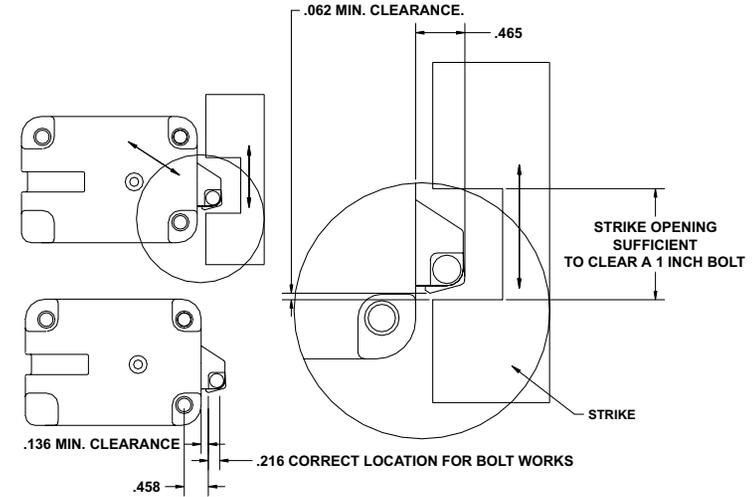

Figure 2 - Square Nose Slide Bolt Clearances and Positioning
4. When mounting the lock unit (i.e., integrating it in a boltwork), make sure that the lock bolt has clearance to freely move to its end positions and that the shifting force works only in the axial direction (direction of movement). Lateral forces should not be exerted on the lock. A minimum clearance of 1/16" (1.6mm) is required between the bolt roller/nose and the inside edge of the strike. Refer to Figures 2 and 3.
1. Ensure that the cable lays in the cable channel as you mount the lock case assembly to the inside of the container door using the three 1/4-20 (or M6-1) screws (Torque 25-30 lbs., 2.8-3.4 N-M), allowing 1/16" (1.588mm) clearance between the lock bolt and the container locking bar. (See Figure 2 for proper clearances and positioning when installing a square nose slide bolt. See Figure 3 for proper clearances, strike types and contact points when installing a roller slide bolt.)